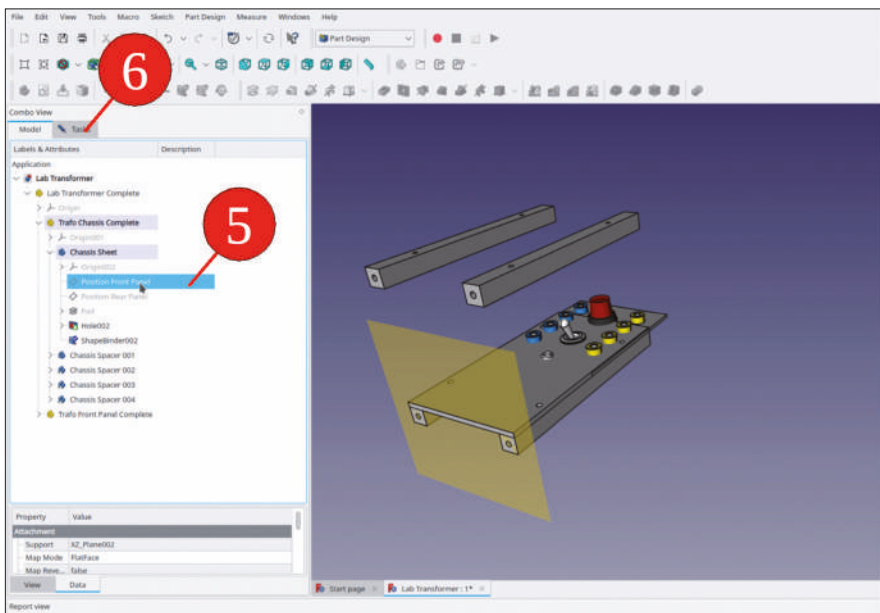

Figure 9-78
6. Switch to the 'Model' tab. Click on the datum plane 'Position Front Panel' (Figure 9-78) and return to the task window. Close the task window with the 'OK' button.